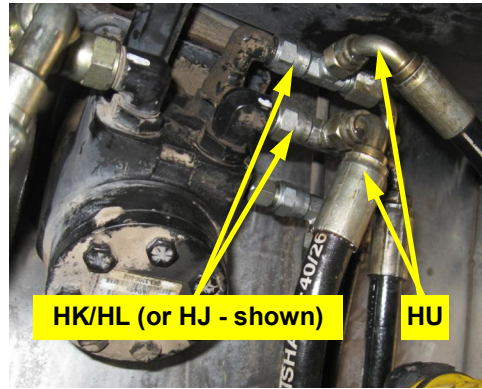

Figure 8a: Steering hoses connected at orbital
- a. Connect steering hoses **HU** to either the fittings **HL** (not shown) on run-tees **HK** or the open stems of run-tees **HJ** (1254 models) (Figure 8a). Route the hoses, with other plumbing and clear of moving parts, along the firewall and down to the hydraulic steering block.